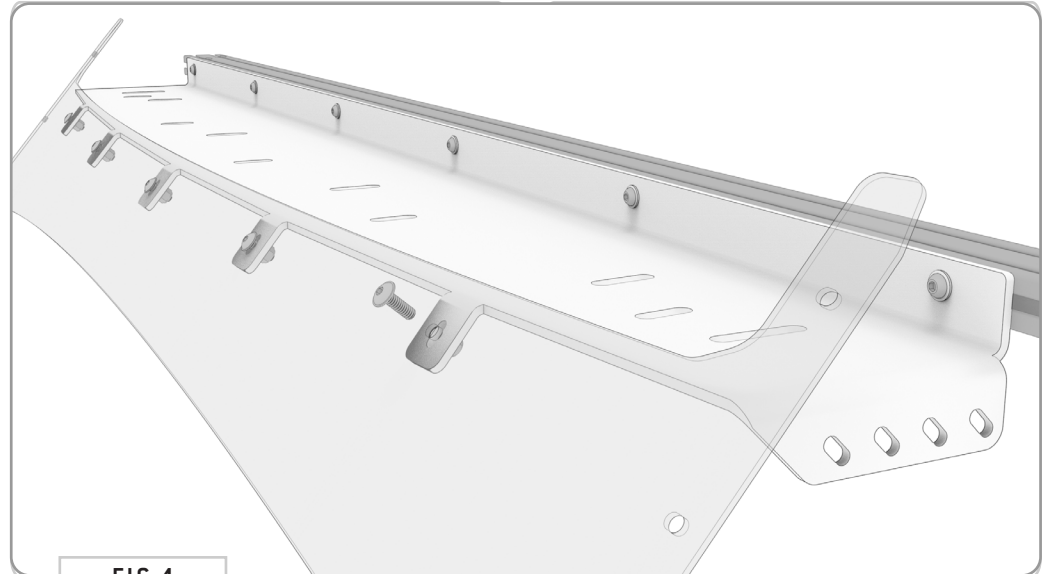

FIG 4
**1.3 Attach Front Fairing:** Attach the Front Fairing to the Assembly using 1/4-20 x 0.75 Flanged Button Head Screws, Flat Washers and Nylon Locknuts (FIG 4 + 5).